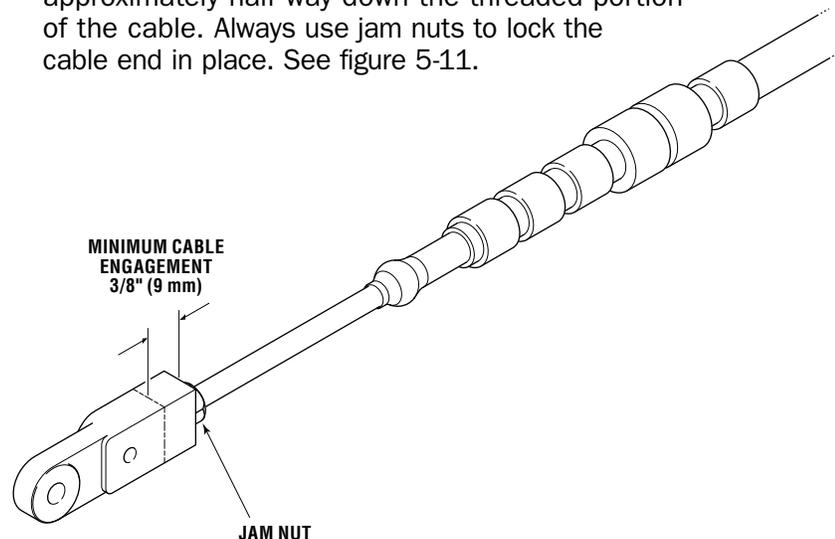

Figure 5-11. Cable End, engine side installation.
2. Connect the cables to the engine using the appropriate adapters. For new adapter kits, refer to the instructions provided with the kit. If reusing the existing cable ends, position the cable ends approximately half way down the threaded portion of the cable. Always use jam nuts to lock the cable end in place. See figure 5-11.
There must always be at least 3/8" of thread engagement on the engine side cable end. See figure 5-11. If correct adjustment cannot be achieved while maintaining 3/8" of thread engagement, longer cable ends may be required.